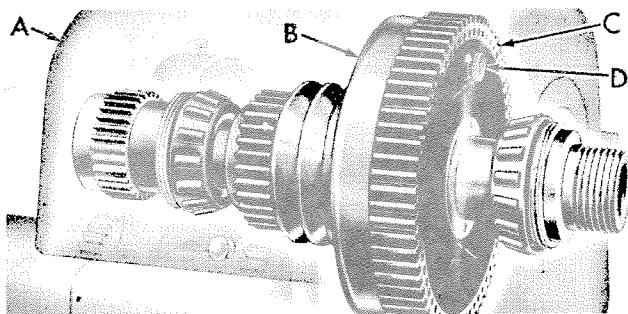

FIGURE 8
2. Raise headstock cover (A, Fig. 8) and pull out lock pin (D), disengaging bull gear (C) from pulley (B).
2. Raise headstock cover (A, Fig. 8). Push on lock pin (D), and turn spindle pulley by hand until pin slides in, locking bull gear and pulley together.